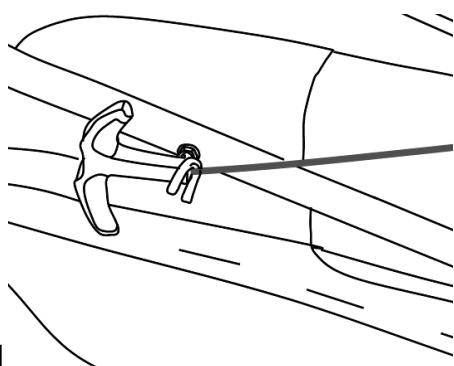

Fig.12
- Fit the recoil starter into the rope guide on the right hand side of the upper handle during operation (Fig. 12).